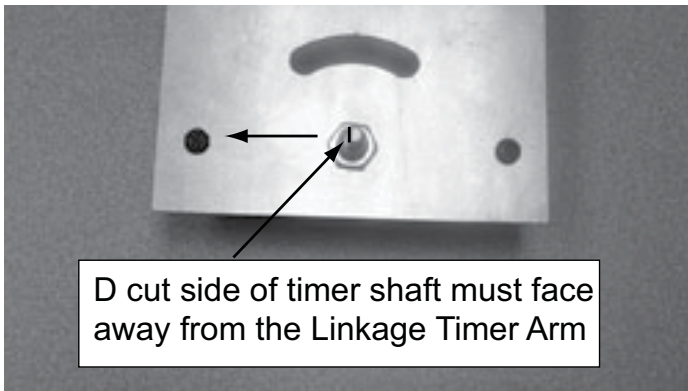

Figure 4.32 D Cut on Shaft
- Install new timer using same two screws. It is very important that the D cut side of the timer shaft is facing the opposite side of the linkage timer arm. See Figure 4.32.